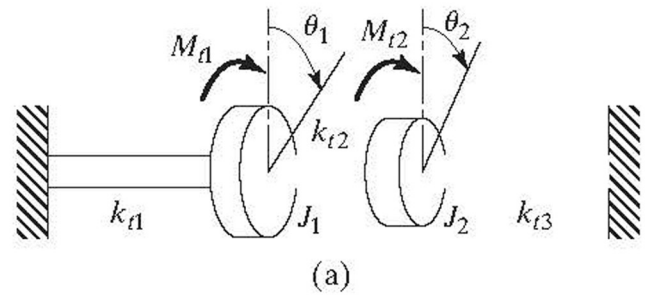

FIGURE 5.8 Torsional system with discs mounted on a shaft.
- 5.38** Find the natural frequencies and mode shapes of the system shown in Fig. 5.8(a) by assuming that  $J_1 = J_0$ ,  $J_2 = 2J_0$ , and  $k_{t1} = k_{t2} = k_{t3} = k_t$ .